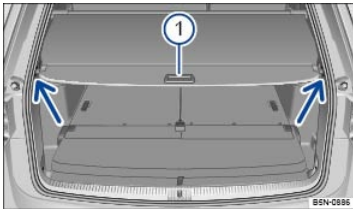

Fig. 156 In the luggage compartment: Opening the luggage compartment cover.
- Pull the luggage compartment cover by the handle ⇒ Fig. 156 ① towards you, then up and out of the stops (arrows) at the rear of the luggage compartment.
- Pull the retracted luggage compartment cover evenly toward the rear and guide it into the stops ⇒ Fig. 156 (arrows).